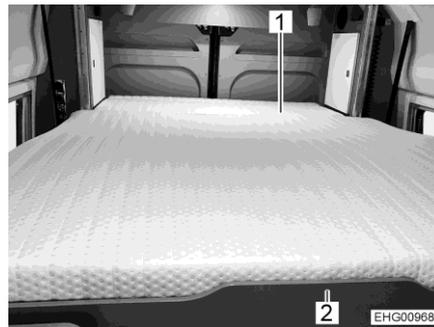

Fig. 68 Pull-down bed
- Hold the pull-down bed by the front bed plate (Fig. 68,2) and lower it until it forms one level with the fixed shelf (Fig. 68,1) in the rear. Alternatively, lower the pull-down bed to another desired position.